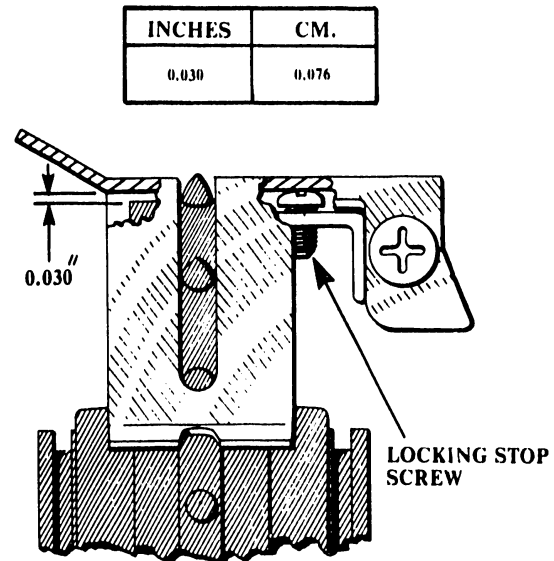

FIGURE 6-29 PAPER GUIDE COVER
- 1) With each of the sprocket-wheel covers closed, there should be a gap between the cover and the paper-feed sprocket of 0.025" to 0.039" (0.064 cm to 0.076 cm) (See Figure 6-29.)
- 2) The teeth of the sprocket should be centrally located in the cover slot 0.030" as shown in Figure 6-29.
- 1) Adjust cover height with the locking-stop screw. Move screw down until a 0.030" (0.076 cm) gauge begins to pinch between the cover and the rubber of the sprocket (see Figure 6-29).